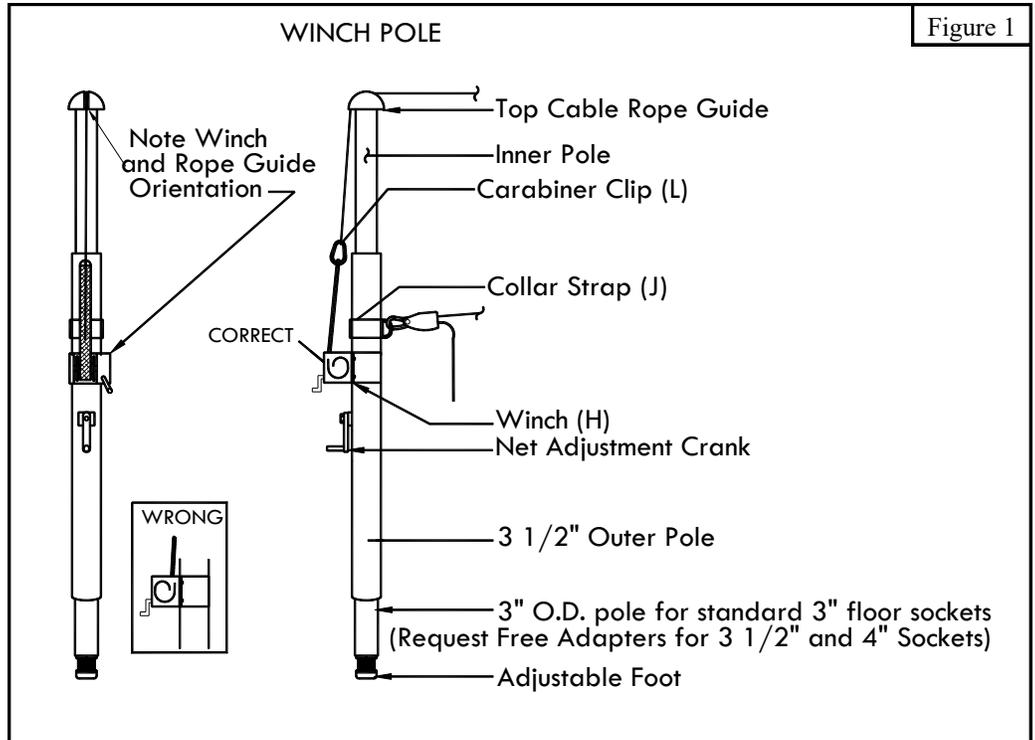

Figure 1
3. Run net top rope over the top rope guide on the winch pole and attach to the web strap on the winch using a *Carabiner Clip* (L). See Figure 1